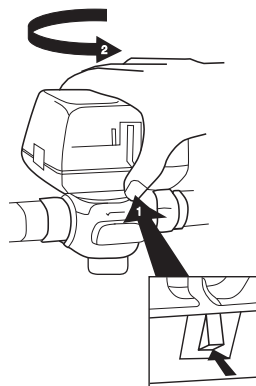

Fig. 5. Latch Mechanism to detach Actuator
4. The actuator head is automatically latched to the valve. To remove, press up on the latch mechanism located directly below the white manual open lever with thumb (See Fig. 5). Simultaneously press the actuator down towards the body with moderate hand force and turn the actuator counter-clockwise by 1/8 turn (45 degrees). Lift actuator off the valve body.